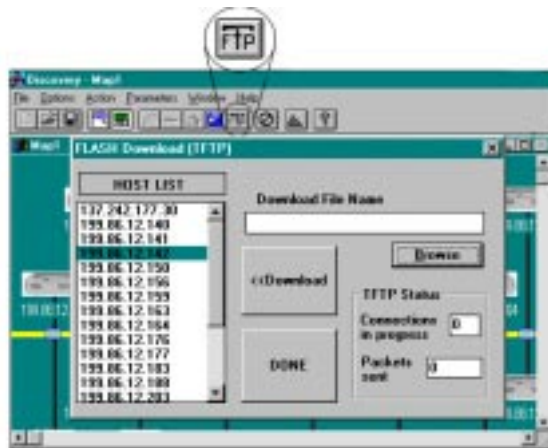

Figure 9-4. Flash Download (TFTP)
1. Click on the **TFTP** icon (fourth from right). The “Flash Download (TFTP)” menu appears (Figure 9-4).